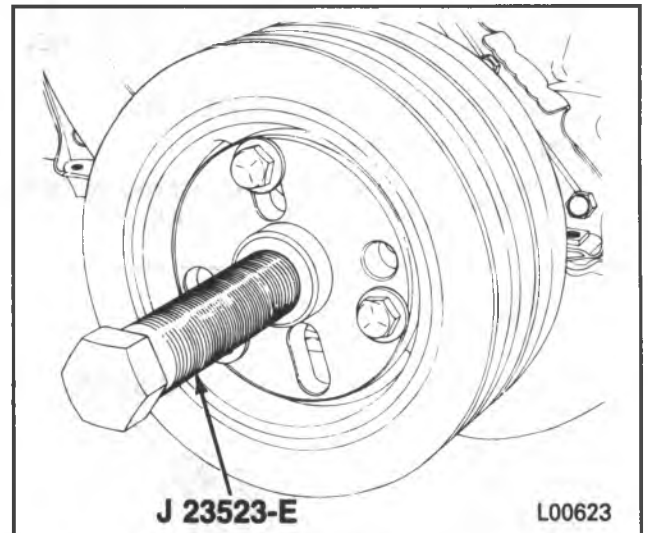

Figure 16 — Removing The Torsional Damper
Remove or Disconnect (Figure 16)
5. Torsional damper using J 23523-E (figure 16).